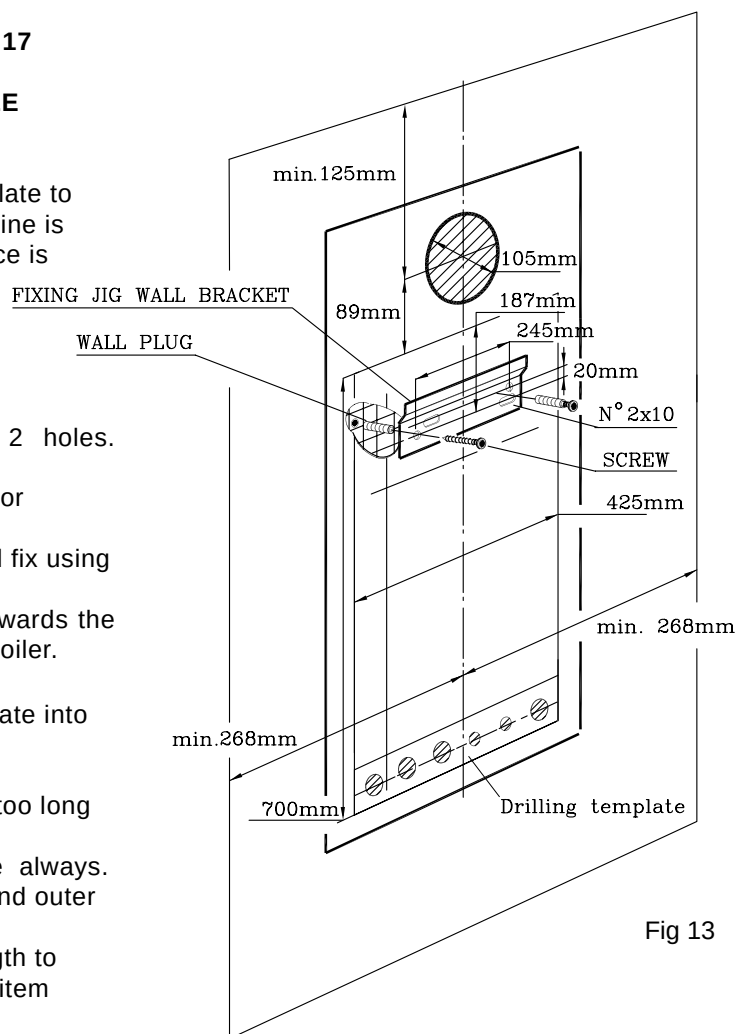

Fig 13
**5.5 INSTALLING THE APPLIANCE FOR REAR FLUE OUTLET (Fig. 13 15 16 17 18 19).
- 5.5.1** Use adhesive tape to attach the template to the wall, making sure that the centre line is vertical and that the distance clearance is no less than that shown in Fig. 13.
- Fit the elbow header positioning it towards the required direction (Fig 13), onto the boiler.
- 5.5.5** Lift the boiler on to the wall (Fig.13), locating onto the fixing jig wall bracket.